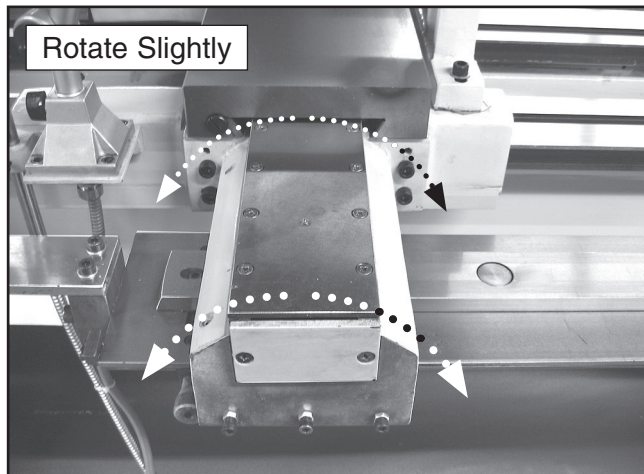

Figure 19. Parallelism correction.
- 27.** Loosen the four mounting cap screws and rotate the taper attachment left or right to correct the alignment (**Figure 19**).